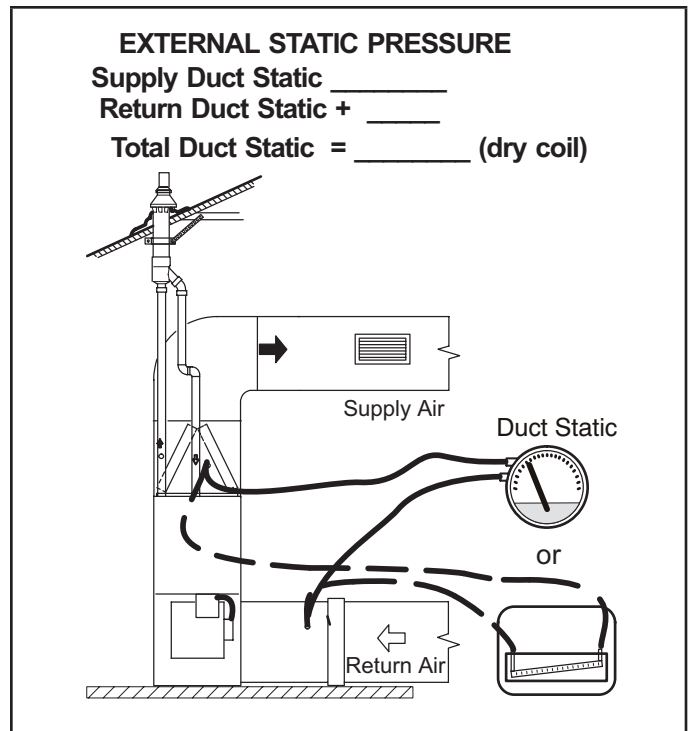

FIGURE 52
- 1 - Tap locations shown in FIGURE 52.